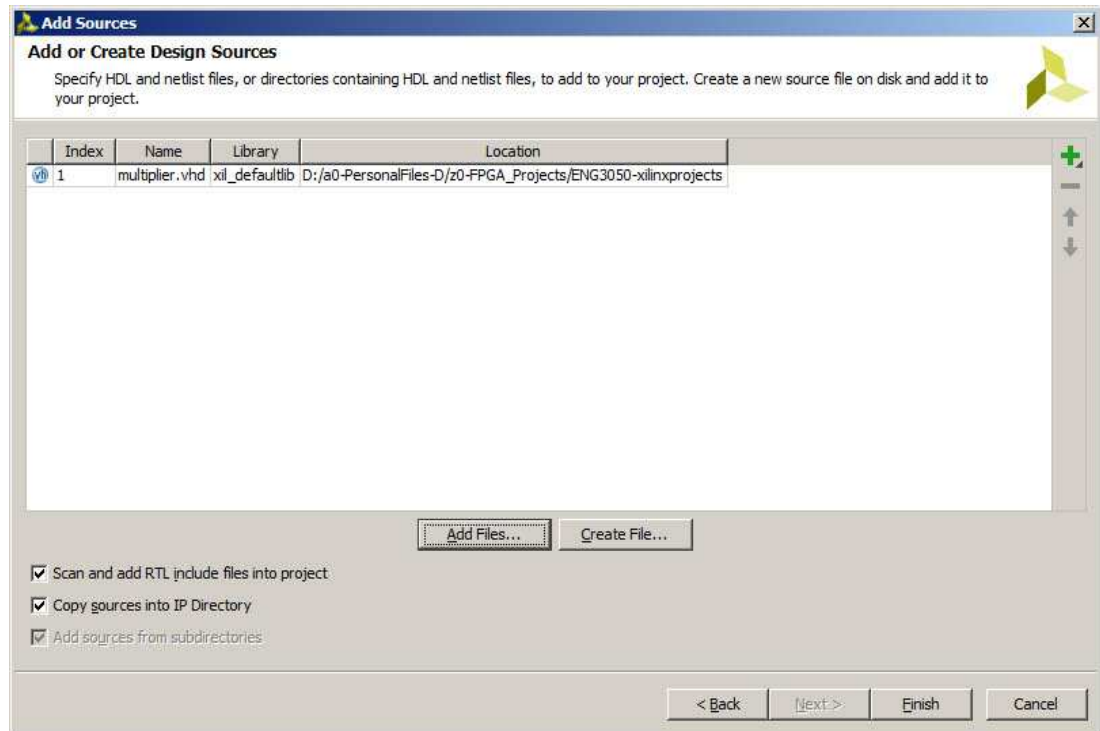

Figure 22: Choosing the VHDL Code
4. Make sure you **tick** “Copy sources into IP directory” and the **click** “Finish” as seen in **Figure 22**.